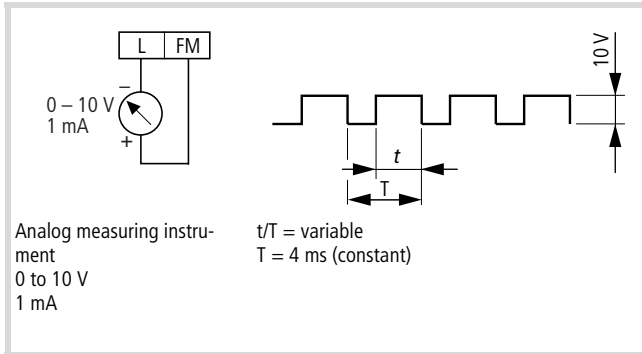
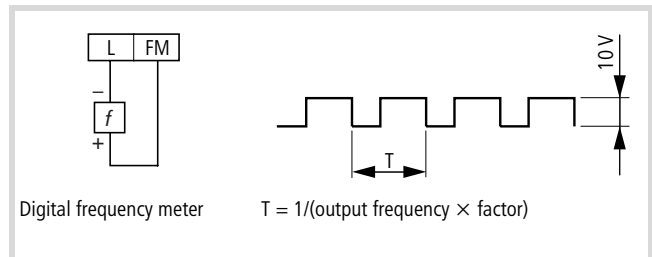

Figure 47: Connection of analog measuring instrument
Figure 49: Digital frequency meter connection
**Frequency output (FM)**
The FM terminal provides the variables listed in the table below in the form of a pulse-width modulated (PWM) signal (→ Fig. 47). An exception is the output frequency to which the value "03" is assigned which is output as a frequency modulated (FM) signal (→ Fig. 49).